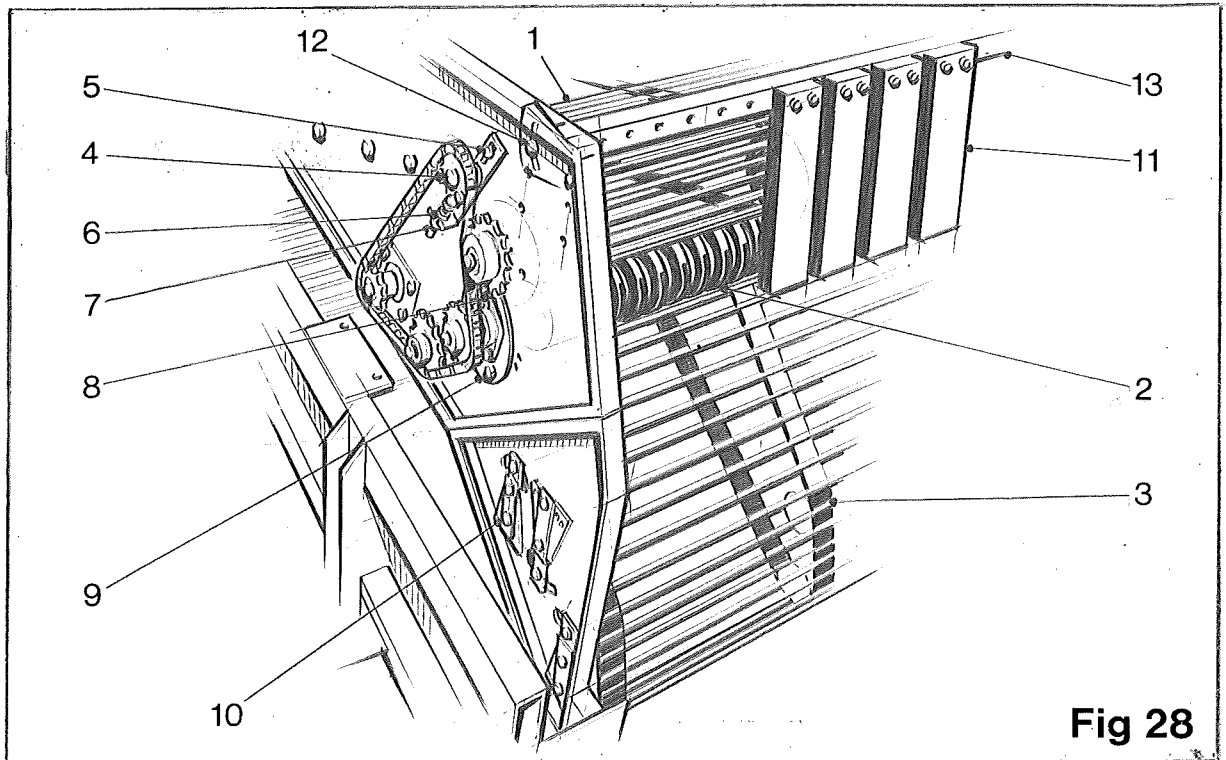

Fig 28
Once the beet reach the top of the lift web they are transferred onto the trash extractor unit. The trash extractor unit consists of a feed elevator, a trash roller and a trash extractor. The beet pass along the feed elevator (item 1, fig 28) and the fall past the trash roller (item 2, fig 28) while leaves and trash etc., carry on under the trash roller to be thrown out of the harvester. The beet fall onto the reverse running trash extractor web (item 3, fig 28) where further cleaning takes place and then roll down onto the discharge elevator feed web.
Adjustment is provided to the rubber trash roller (item 2, fig 28) to accomodate varying soil conditions. To adjust the trash roller, you must first loosen the chain tensioner (item 4, fig 28), loosen the nuts (item 5, fig 28) and the lock nut (item 6, fig 28) and turn the adjusting nut (item 7, fig 28) to loosen the chain. Loosen the lock nuts (item 8, fig 28) and remove the bolts (item 9, fig 28) and then pivot the roller to the required position. Ensure the roller is parallel with the web before resecuring the roller. Finally retension the chain by turning the adjuster nut (item 7, fig 28) and then retighten the chain tensioner nuts (item 5, fig 28).
The angle at which the trash extractor web (item 3, fig 28) operates is adjustable. When the trash is dense the trash extractor should operate at a shallow angle, whereas when a small amount of trash is evident, then the trash extractor should operate at a steeper angle. The adjustment can be made by repositioning the six web carrying rollers by removing the set screws (item 10, fig 28) and swinging the rollers into a new position and resealing.
Rubber deflector blocks (item 11, fig 28) are positioned at the rear of the feed web to deflect the beet down onto the trash extractor web. The deflectors are adjustable for height and angle depending on crop conditions. To adjust the angle of the deflectors, loosen the securing bolts (item 12, fig 28) and pivot the deflector frame (item 13, fig 28) to the desired angle. To adjust the height of the deflectors, remove the securing bolts (item 12, fig 28) and reposition the deflector frame (item 13, fig 28) over any one of the three pairs of adjusting holes and resecure.